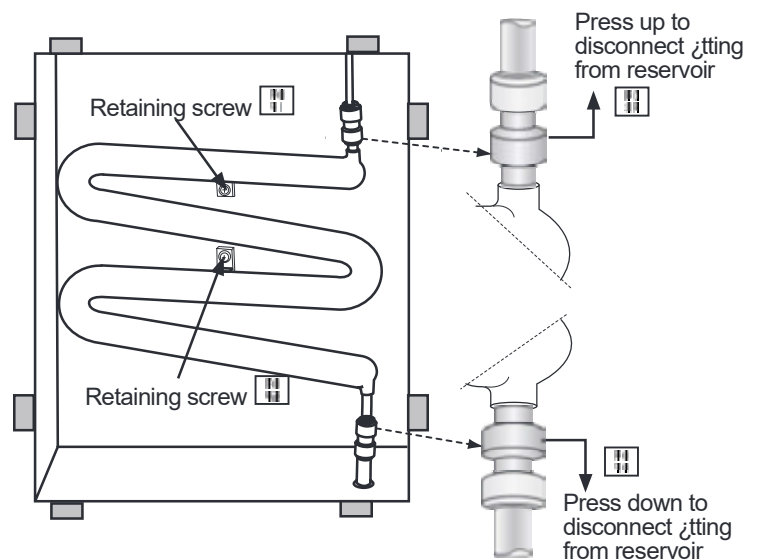

Figure 11-9. —Reservoir fittings and retaining screws.
6. Disconnect the dispenser water line at the reservoir. See Figure 11-9 . Allow water to drain into the container (placed in step 4).
7. Disconnect the water fill line from the reservoir. See Figure 11-9 .
8. Remove the retaining screws, then pull the reservoir out of the cabinet recess. See Figure 11-9,  and .